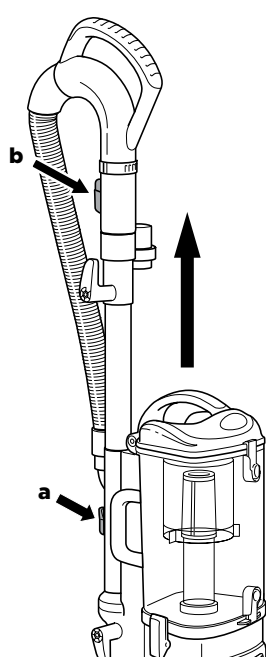

Fig. 13
- 2 To clean with the handle, press the release button on the handle (b) and lift. To use the wand to clean with more reach, press the wand release button and remove the wand from the canister. (Fig. 13)